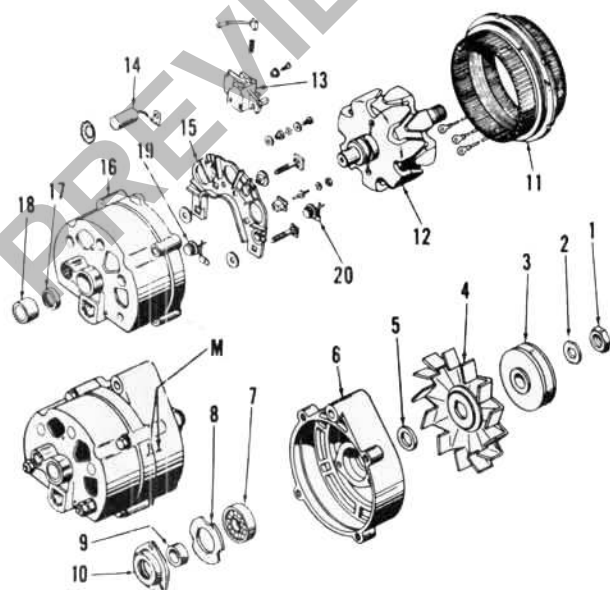

Fig. 85—Exploded view of "DELCOTRON" alternator used on Series 444 and 2444.
To disassemble the alternator, first place match marks (M—Fig. 85) on the two frame halves (6 and 16), then remove the four through-bolts. Pry frame apart with a screwdriver between stator frame (11) and drive end frame (6). Stator assembly (11) must remain with slip ring end frame (16) when unit is separated.
Disconnect the three stator leads and separate stator assembly (11—Fig. 85) from slip ring end frame assembly. Check stator windings for grounded or open circuits as follows: Connect ohmmeter leads successively between each pair of stator leads. A high reading would indicate an open circuit.